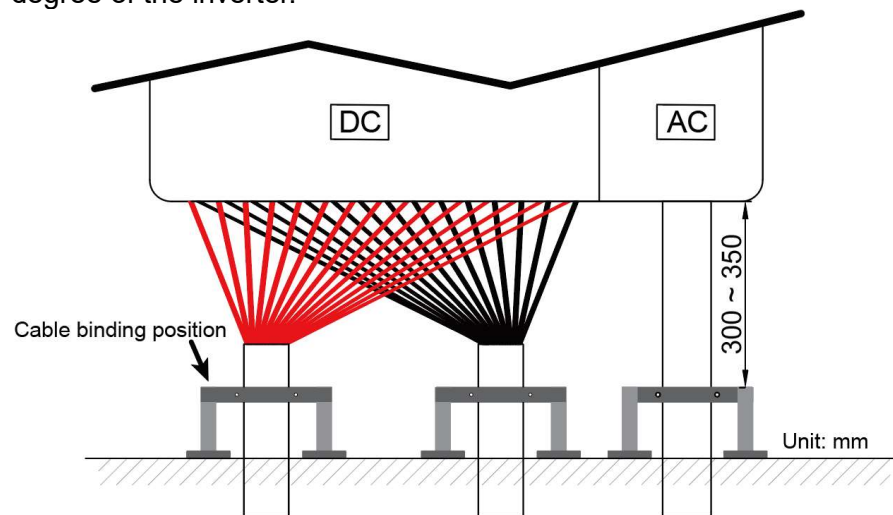

Fig. 4-20 Bind cables
- Bind cables at positions 300 ~ 350 mm away from DC connectors and AC sealing plates (refer to Fig. 4-20). Otherwise, swaying cables may loosen the connectors or sealing plates, which may affect the protection degree of the inverter.